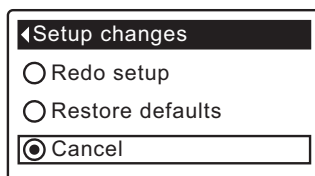

FIG. 24
1. From any of the rolling status screens, press the SELECT (O) button to display the **Main menu**.
3. Press the SELECT (O) button to display the Advanced settings menu.
5. Press the SELECT (O) button to display the Troubleshooting menu.
7. Press the SELECT (O) button to display the Setup changes menu (See Figure 24).
8. Press the RIGHT (►) button. The flashing padlock icon will disappear, as shown in Figure 24.
9. Press the SELECT (O) button.